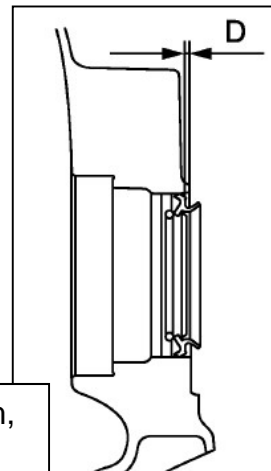

Figure 218
- Drive the differential side oil seal in until the amount of oil seal protrusion from the torque converter housing edge matches Dimension D shown in Figure 218.